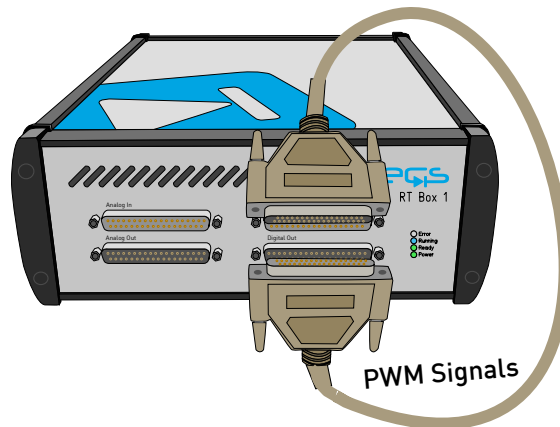

Fig. 3: Single RT Box with a loopback cable connected in front to run the minimal example demos
- 1 Connect the Digital Out interface to the Digital In interface of a single RT Box, using a DB37 cable shown in Fig. 3.